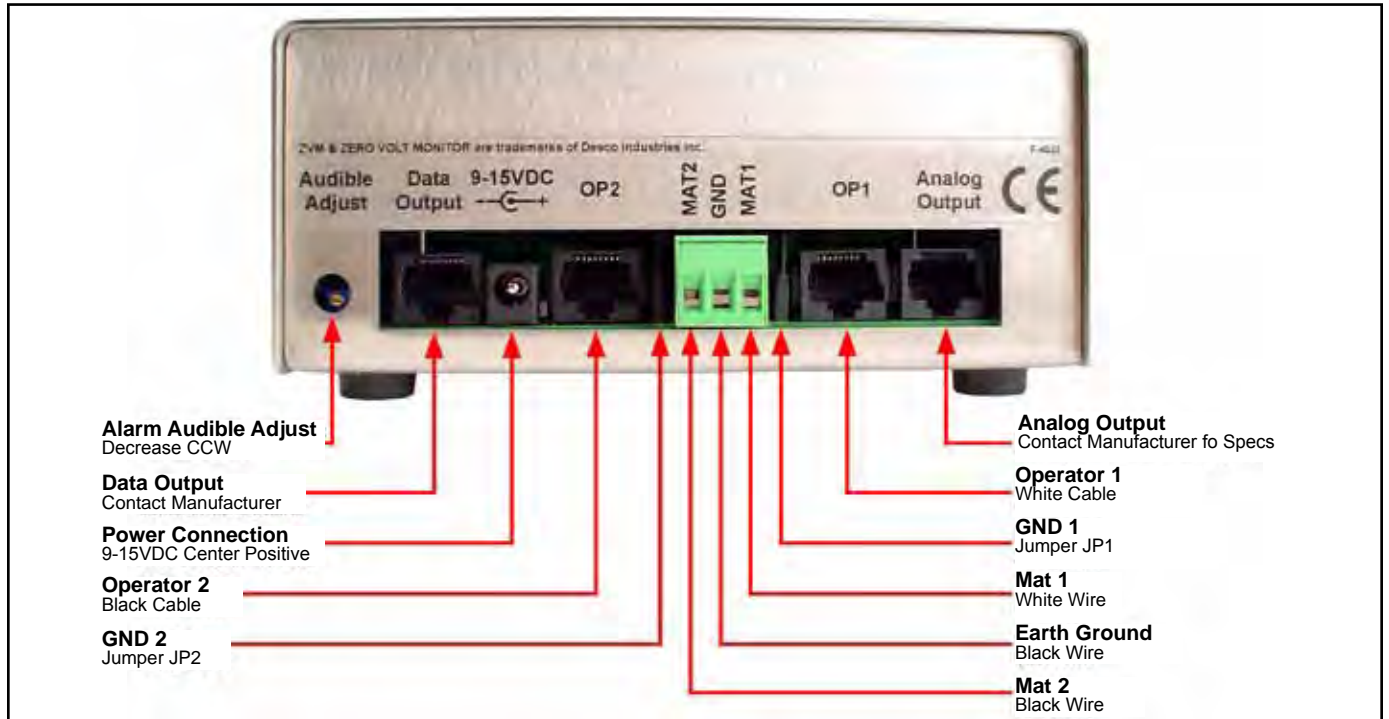

Figure 1. Rear View of the Zero Volt Monitor™
- IX. Insert the modular plugs of each remote cord into their appropriate modular jacks located at the rear of the unit (See Figures 1 and 2).